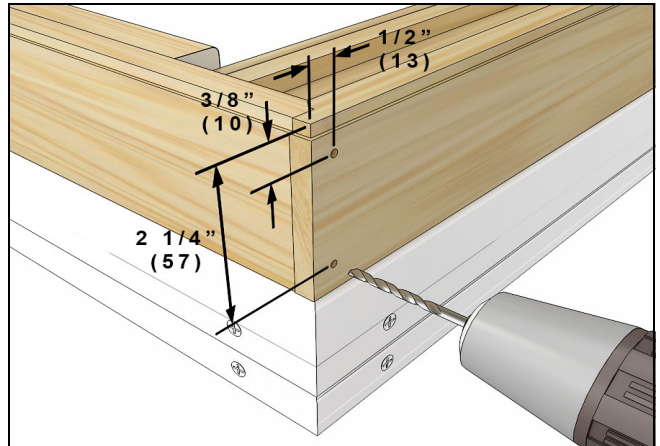
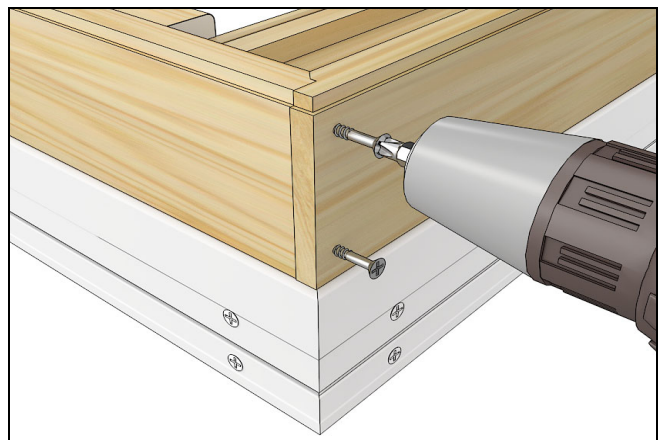

Figure 4
Figure 5
4. Pre-drill 1/8" pilot holes a maximum of 5/8" deep and fasten screws. See Figure 4 and Figure 5.